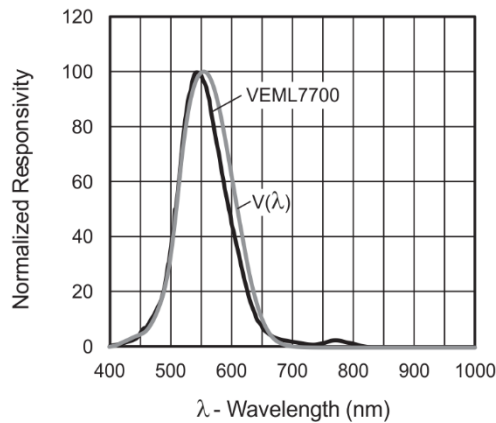

Figure 13: Spectral response
- Sensitivity spectrum close to human eye photopic curve  $V(\lambda)$  (see Figure 13)